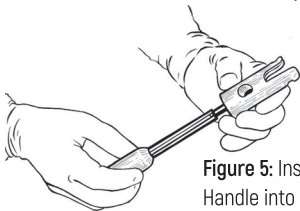

Figure 5: Insert the Holder Handle into the Holder Head
1. Select the appropriate size Holder Head and insert the Holder Handle into the Holder Head (Refer figure 5).